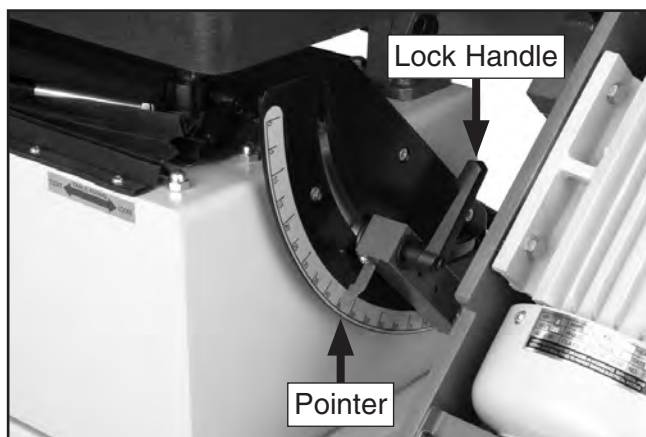

Figure 15. Adjusted sanding angle.
1. Loosen angle adjustment lock handle and tilt sander until the pointer is aligned with desired angle, as shown in **Figure 15**.